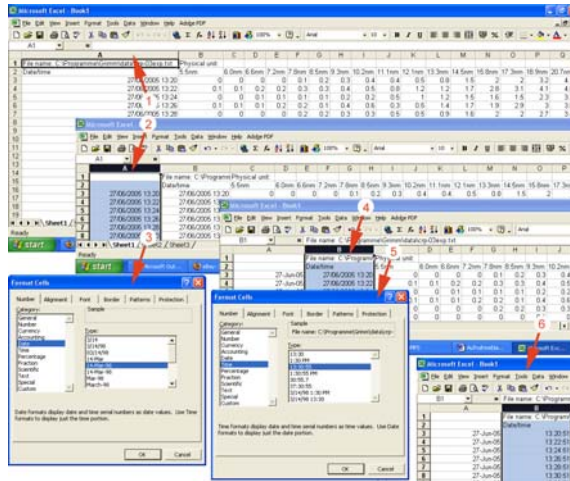

Fig.9: Final touches of the imported SMPS file
- Right-click "Column A" of imported file and insert an extra row (step 1 in fig.9);
- Copy-paste content of "Row B" into "Row A" (step 2 in fig.9);
- Right-click "Row A" and set to standard date format (step 3 in fig.9);
- Right-click "Row B" and set to standard time format (step 4 & 5 in fig.9);
- Result should look like step 6 in fig.9;